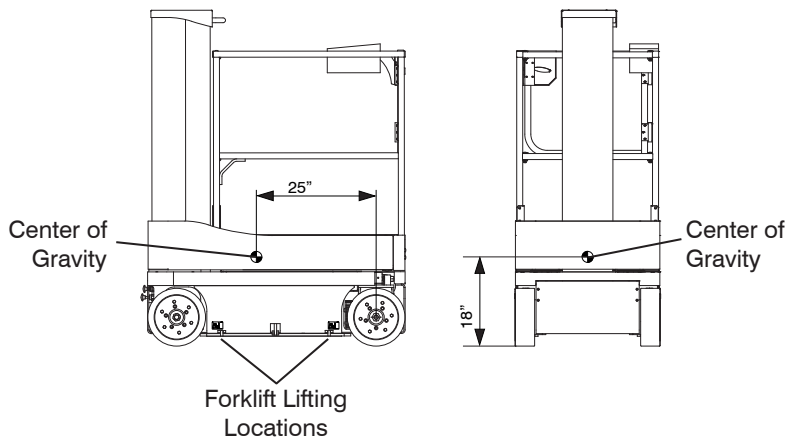

Figure 3-13. Center of Gravity/Forklift Lifting Locations
- The aerial platform can be lifted with a forklift from the sides. Lift with forks in designated forklift lifting locations as illustrated in Figure 3-13.
The mass of the aerial platform is as per Table 4.3. The center of gravity is approximately located in the middle of the aerial platform, front to back and side to side, as illustrated in Figure 3-13. Vertically, the center of gravity is approximately just above the base chassis.